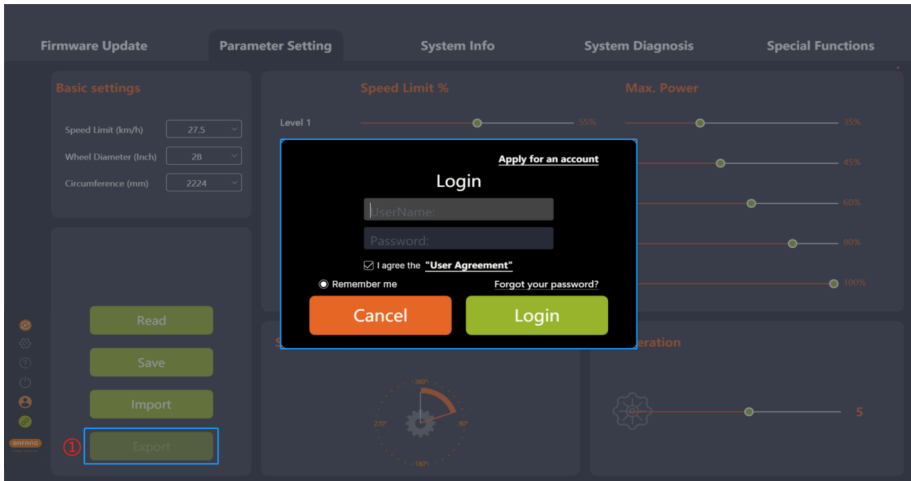

Fig 5-9 Export
1. Click "Export". If you are not logged in, the "Login" interface will pop up, prompting you to log in (Figure 5-9).